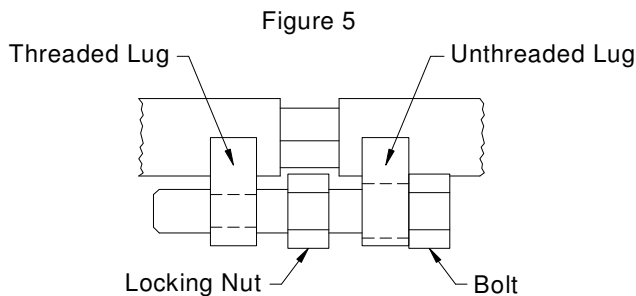

Figure 5
- Step 4:** Insert bolt through unthreaded lug. Screw bolt into locking nut, then into threaded lug. (Fig. 5)